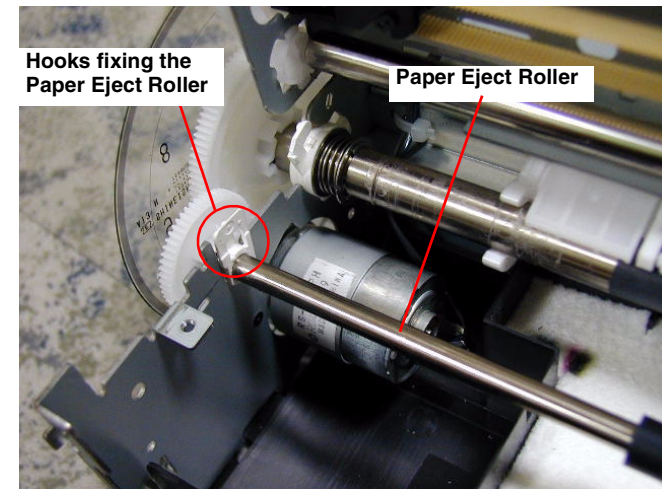

Figure 4-57. Removing the Paper Eject Roller Assembly
- 12) Remove the Paper Eject Roller Assembly, releasing the fixing locks located on the right and left edges of the Paper Eject Roller Shaft. Refer to Figure 4-57.